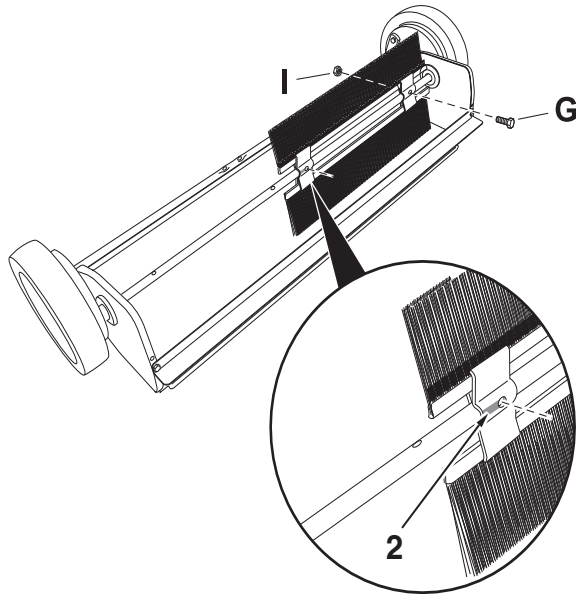

Figure 3
STEP 3: (SEE FIGURE 3)
- Install the brush with retainer marked red (2) onto the brush shaft and secure in place with a 1/4-20 x 1" hex bolt (G) and 1/4-20 nylock nut (I).